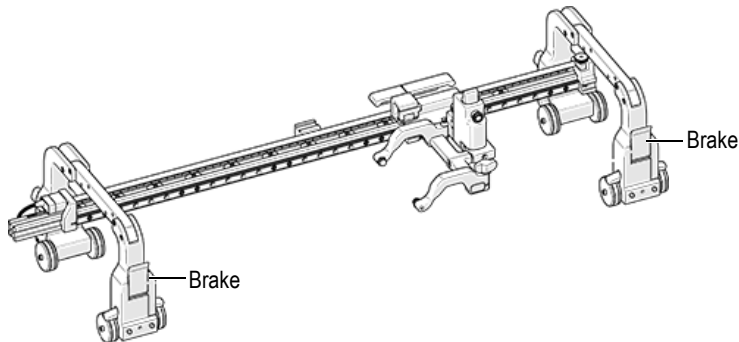

Figure 2-9 Configure magnetic scanner and set brakes
1. Ensure the appropriate configuration is setup (see Figure 2-9 on page 39).